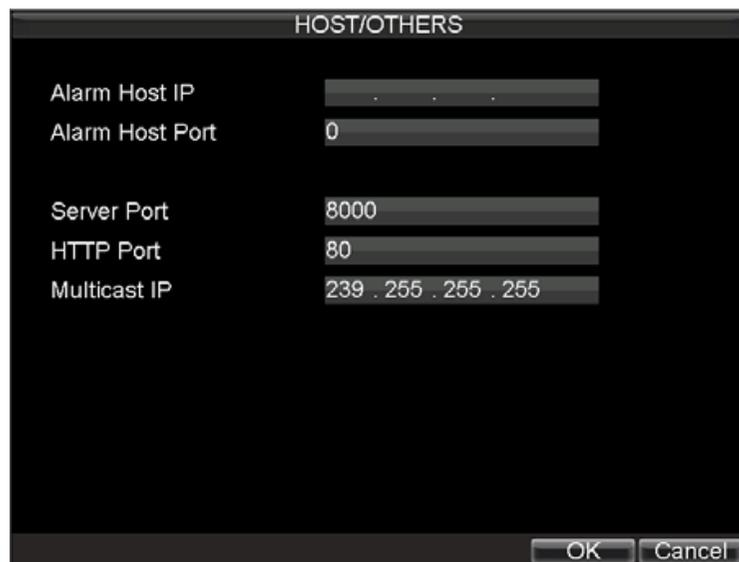

Figure 10.10. Host/Others Menu
- 4) Enter new **Server Port** and **HTTP Port**, as shown in Figure 10.10.